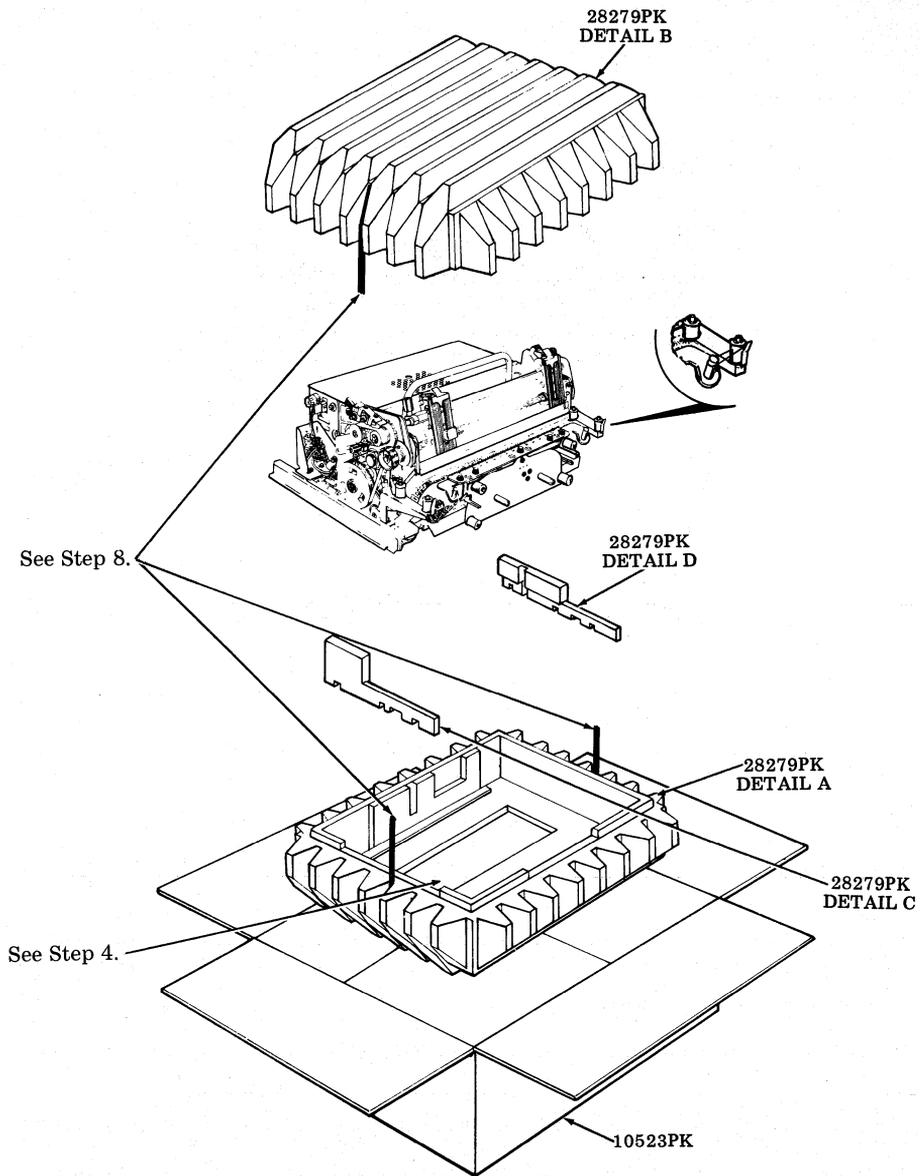

Fig. 16
- Step 3. Set unit upright, secure each of the two ribbon tensioning arms in latched position with 50136PK twist ties as illustrated in Fig. 16.
- Step 4. Place a plastic base (28279PK Detail A) on work bench as illustrated in Fig. 16. Place printer in base.
- Step 5. Position a 28279PK Detail C along the side of mounting rail at left side of printer and a 28279PK Detail D along the side of the mounting rail at right side of printer. See Fig. 16.
- Step 6. Position a plastic cover (28279PK Detail B) over printer as illustrated in Fig. 16.
- Step 7. Secure details A and B together by applying a band of 21632PK tape around the details as shown in Fig. 16.